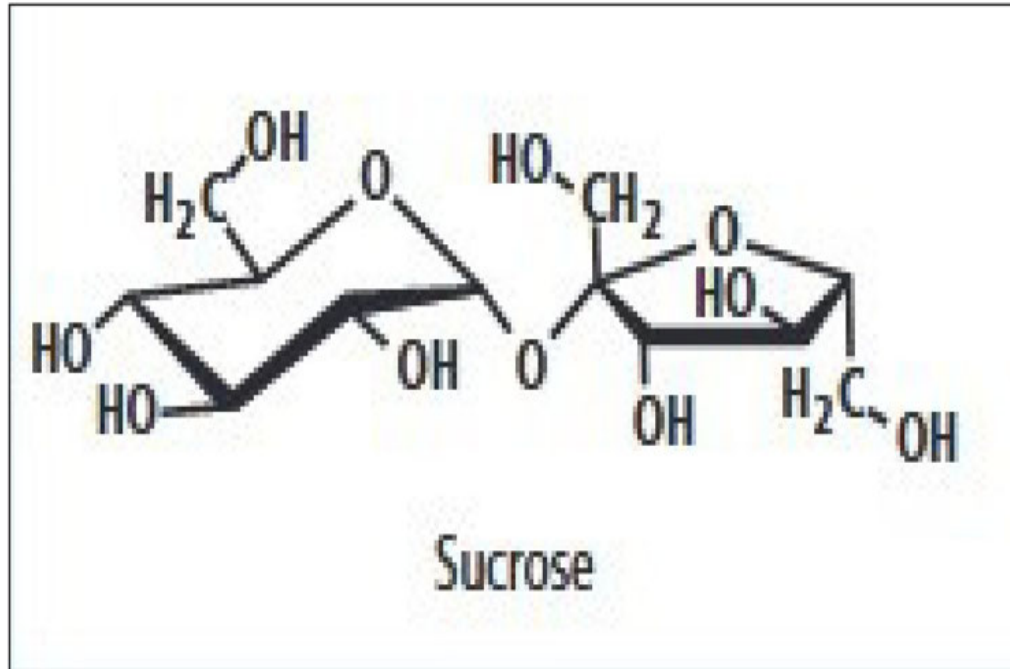

Figure 18 – Sucrose molecule assemblage
In fruits, glucose molecules chemically bond to fructose molecules. Fructose is also C₆H₁₂O₆ but the chemical links between the atoms and the angular displacements of atoms are slightly different than in glucose. Glucose and fructose will join together after each gives up a hydrogen ion. The resulting combination of glucose and fructose is termed a sucrose molecule. When we bite into a ripe piece of fruit and taste its sweet goodness, we are tasting sucrose. Figure 18, taken from an article by author Steve Curtis (5) illustrates the sucrose molecular assemblage. As fruit progresses towards complete ripeness, the oxygen bond between the two molecules breaks down. Yeast will then be able to consume each molecule individually during fermentation.